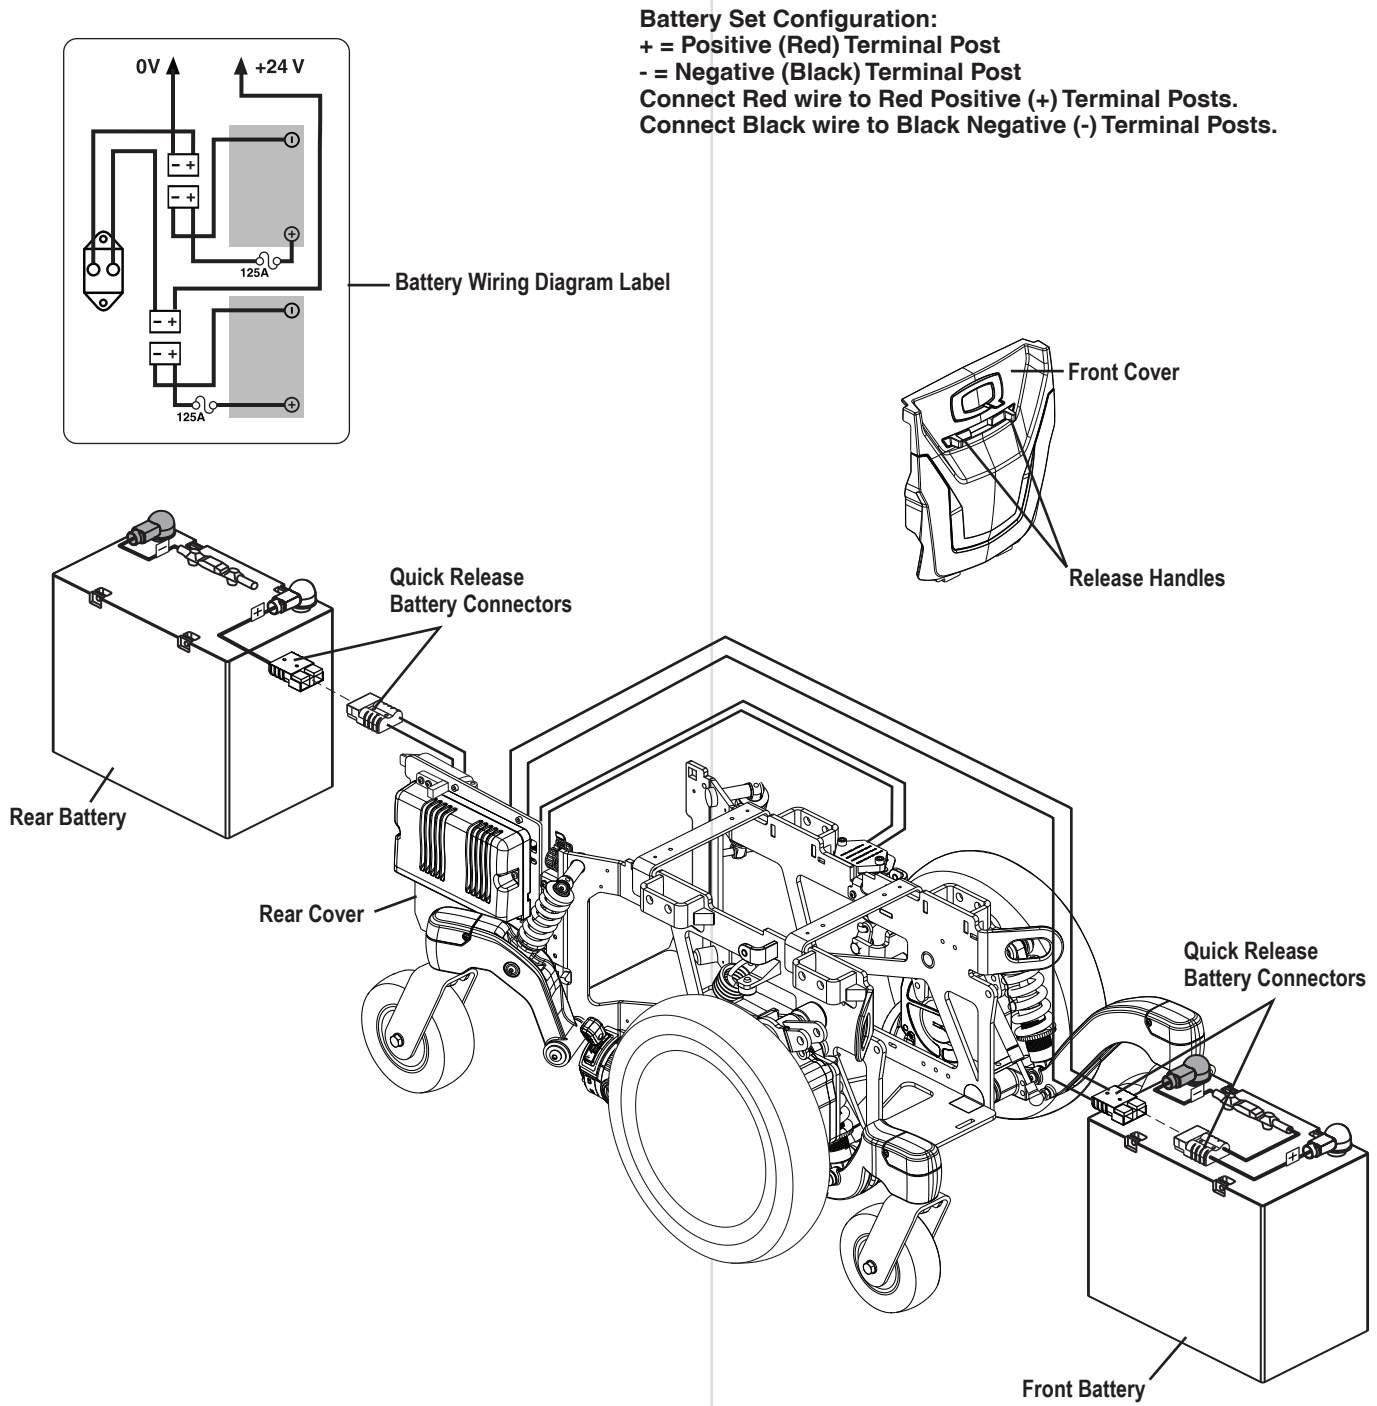

Figure 15. Battery Installation
3. Remove the front cover by squeezing the release handles (**see figure 15**) and lifting the front cover up and away from the power base.
4. Remove the rear shroud by rotating the two (2) yellow clips out toward the drive wheels. Lift the rear cover up and away from the power base.
6. Disconnect the quick release battery connectors. **See figure 15.**
9. Connect the battery harness to the new front battery according to the battery wiring diagram. **See figure 15.**
10. Connect the battery harness to the new rear battery according to the battery wiring diagram. **See figure 15.**